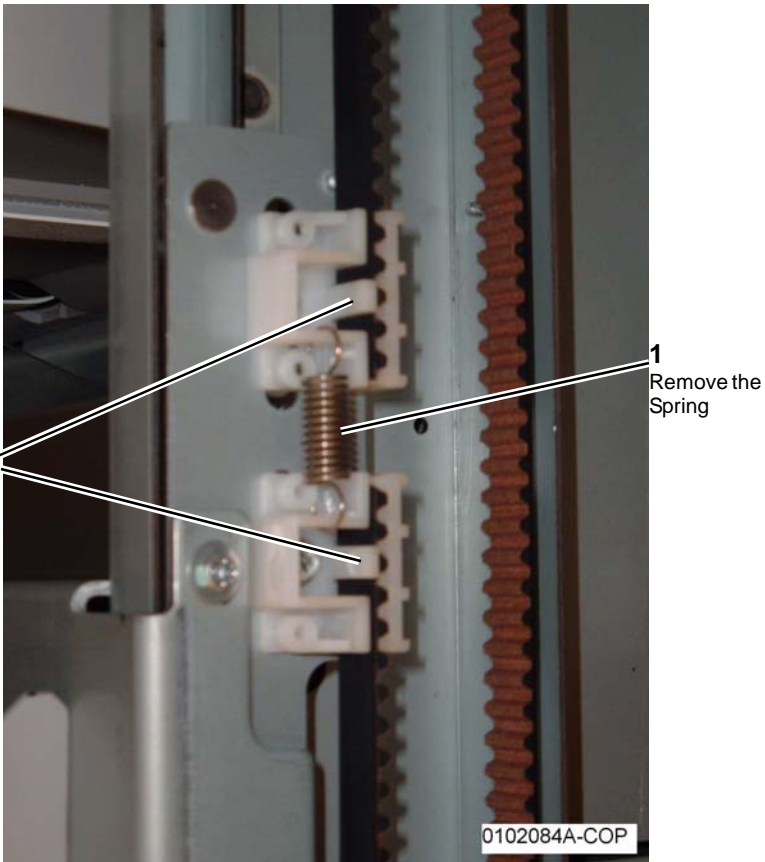

Figure 1 Removing the rear Stacker Belt
7. Remove the rear Stacker Drive Belt (Figure 1).